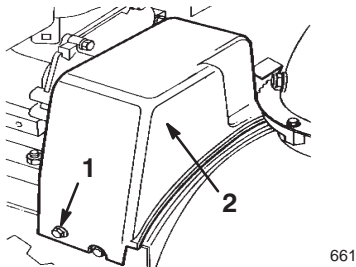

Figure 24
4. Remove the two flange-head bolts that hold the belt cover in place and set the cover aside (Fig. 24).
3. Remove the two flange-head bolts that hold the belt cover in place and set the cover aside (Fig. 24).